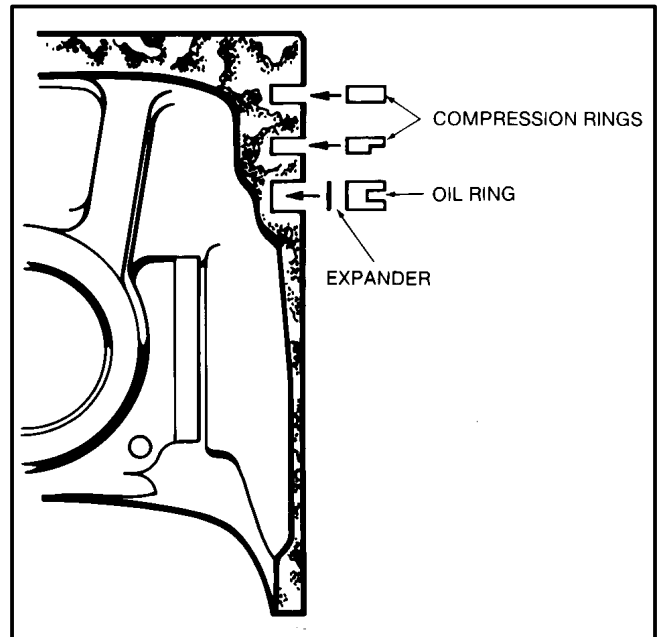

FIGURE 10-28. PISTON RINGS
3. Install the rings on the pistons starting with the oil control ring (see Figure 10-28). Use a piston ring spreader to prevent twisting or excessive expansion of the ring. Compression rings have a dot or the word "top" on one side of the ring to indicate which side faces the top of the piston. Unmarked piston rings can be installed either way. The oil control ring has an expander. Install the expander first and then close until the expander ends butt. The joint should be 180° from the gap of that ring.